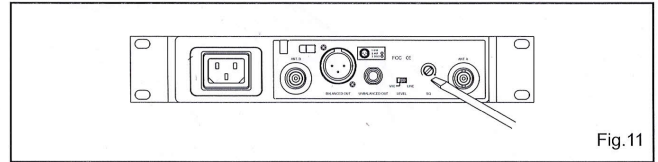

Fig.11
2. If RF LED indicators (2) of the receiver light on before switches on the microphone or transmitter, it indicates the receiver is receiving interference signals. This system has Pitlotone and NoiseLock dual-squelch features and no noise output will occur. If multiple channels are used and both RF and AF LEDs glow and interference noise appear, simply adjust the Squelch controls (10) clockwise until AF signal indicators to extinguish. (Fig. 11). However, by adjusting the squelch controls, it affects the sensitivity level of the receiver, therefore, shorten the operating distance and decreases the stability.
3. Under normal circumstances, the RF indicator lights up when a microphone or transmitter is turned on near the receiver to indicate the receiver is ready for normal operation. Once sounds to the microphone and the AF LED indicators (3) will glow according to the strength of sound level. If no LED glows or no sound outputs, the system is not function properly, thus it must be checked.